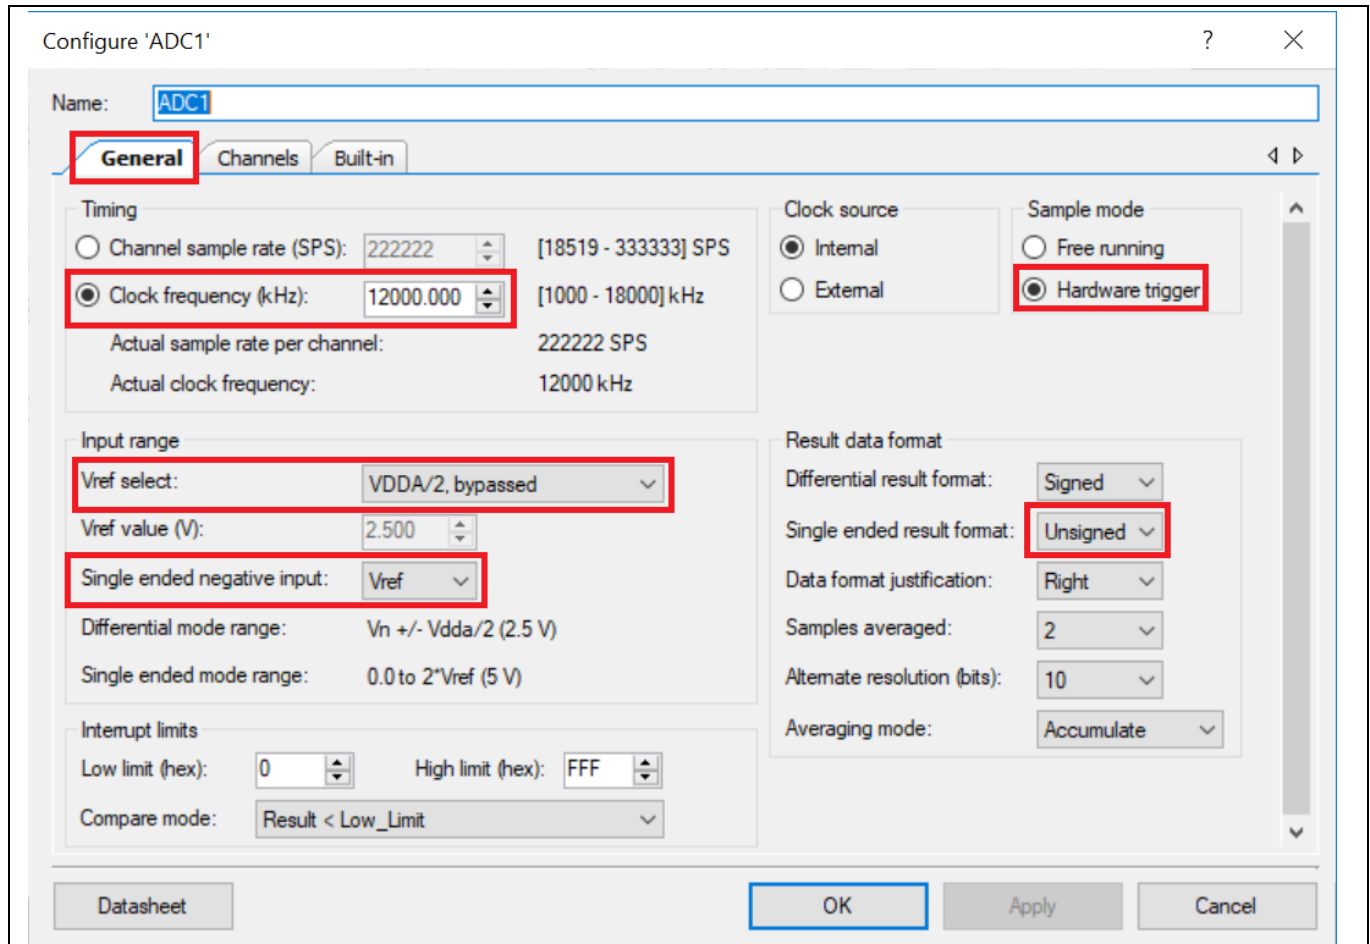
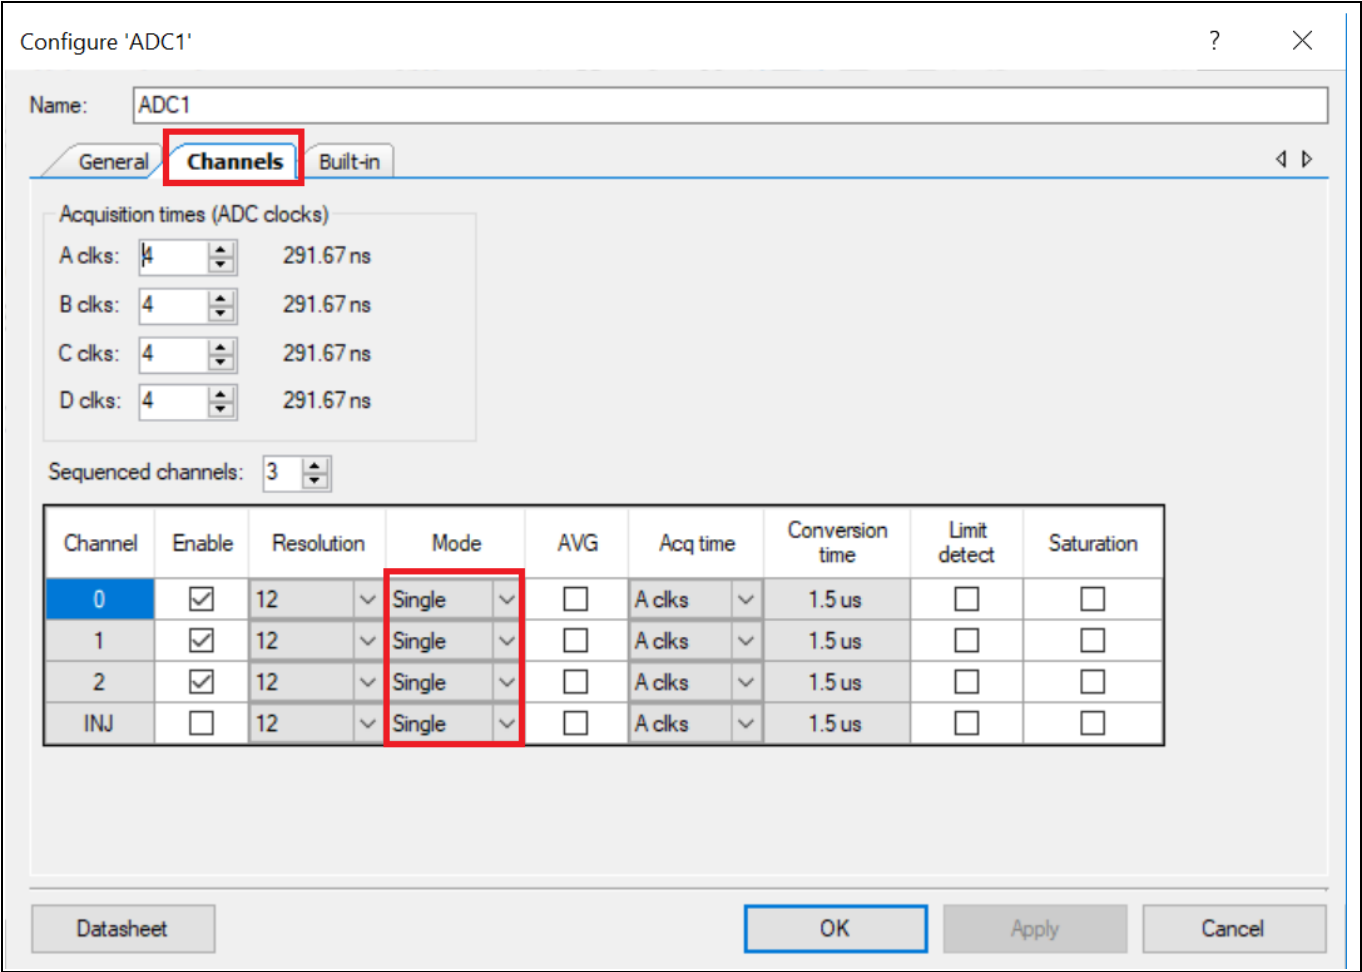

Figure 23 SAR ADC Configuration, General Tab
Figure 24 SAR ADC Configuration, Channels Tab
Figure 23 and Figure 24 show the SAR ADC configuration with the following features:
- Sampling clock is 12 MHz for an 888-kcps sampling rate. The actual sample rate shown in Figure 23 indicates that four channels are being sampled ($888 / 4 = 222$).